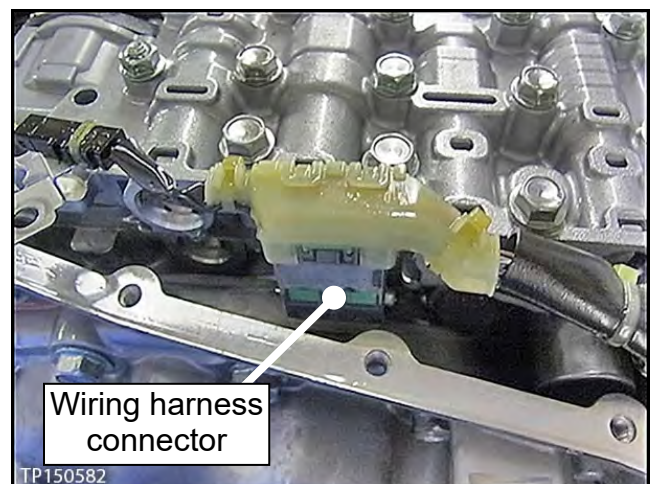

Figure 34
6. Disconnect the wiring harness connector (see Figure 34).